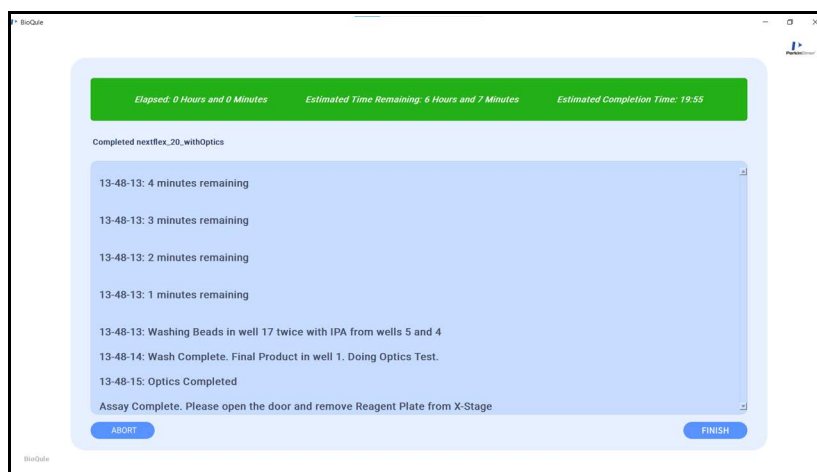

Figure 22. Remove Reagent Plate Prompt
- 4 Click the **OK** button to start the run. The BioQule software displays the command execution status as the assay runs as shown in Figure 22.